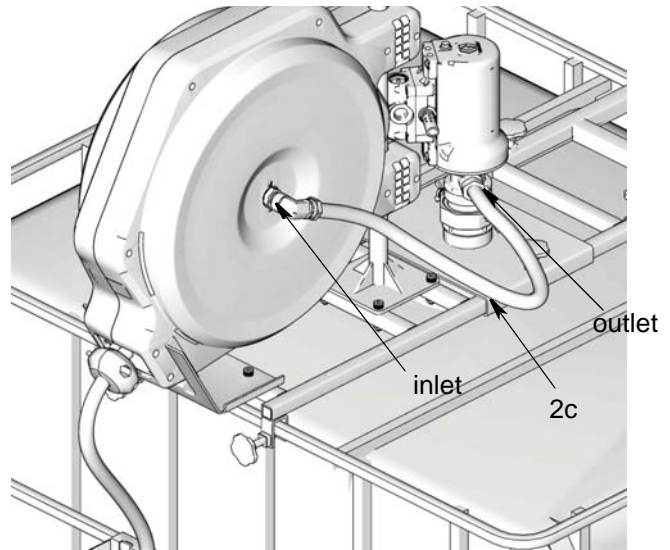

FIG. 18
5. Connect the flexible fluid hose (2c) between the pump outlet and reel inlet (FIG. 18).